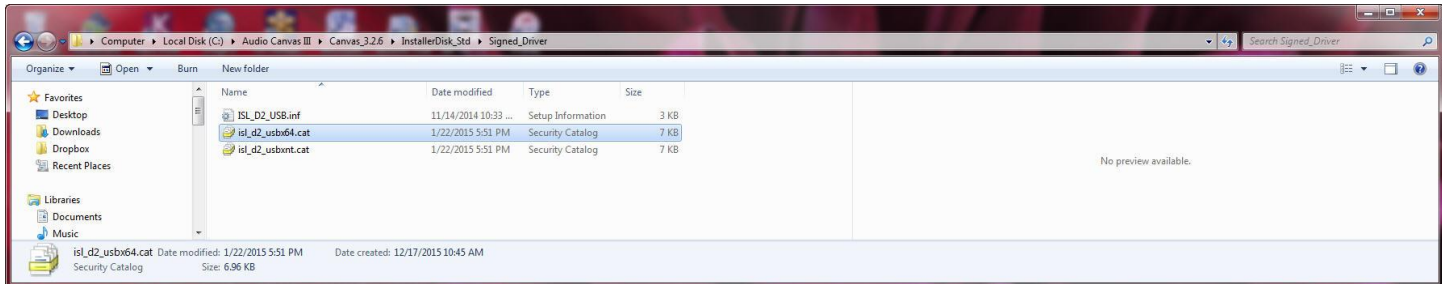

Figure B4: SCAMP7/8 (D2Audio Hardware) Driver
9. The correct Driver for the SCAMP7/8 Dongle is found in the “Signed Driver” Folder of the InstallerDisk\_Std, and is named “ISL\_D2\_USB.inf” as shown in Figure B4
11. Navigate to the Folder location of the Driver described in Figure B4